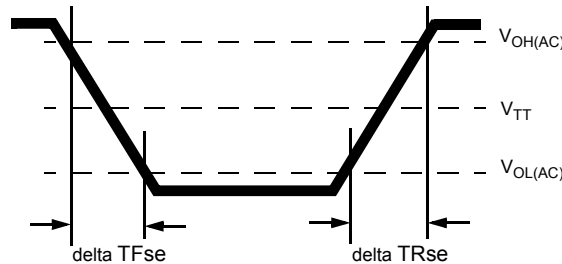

Figure 6. Single-ended Output Slew Rate Definition
With the reference load for timing measurements, output slew rate for falling and rising edges is defined and measured between VOL(AC) and VOH(AC) for single ended signals as shown in Table 12 and Figure 6.